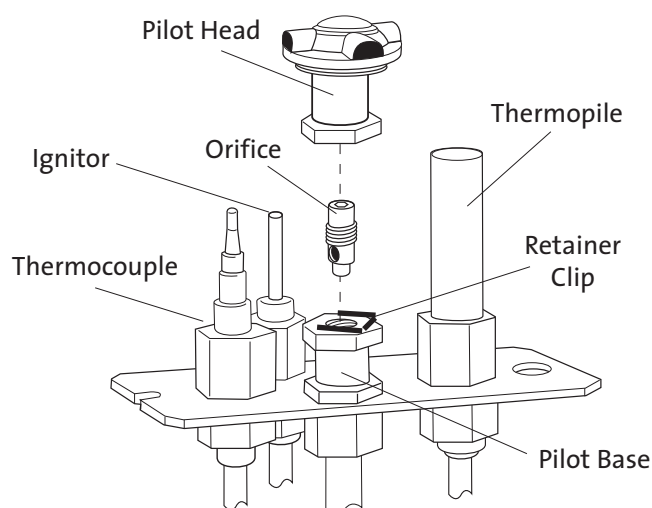

Figure 16. Pilot orifice removal and replacement.
11. CHANGE THE PILOT ORIFICE: From within the firebox, remove the Pilot Head by pulling it straight up from the pilot base. See fig. 16. Using the 4 mm hex key included with the kit, unscrew the pilot orifice (counterclockwise). Replace with the appropriate orifice: